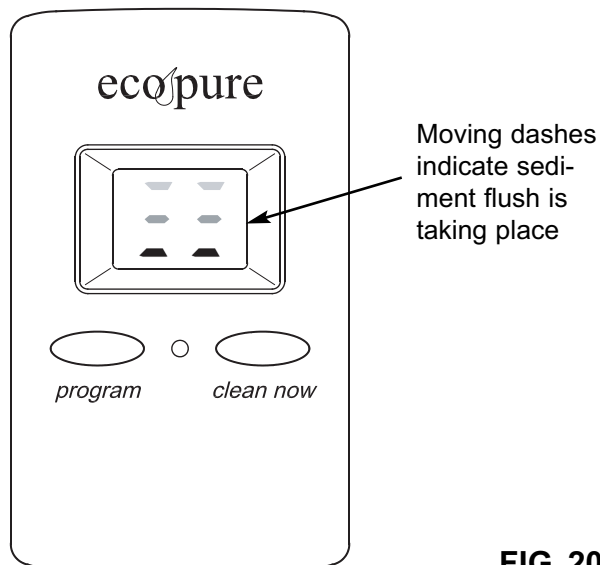

FIG. 20
1. Press the CLEAN NOW button and hold it for at least 2 seconds. When the 2-digit display changes to show moving dashes (See Figure 20), release the CLEAN NOW button.